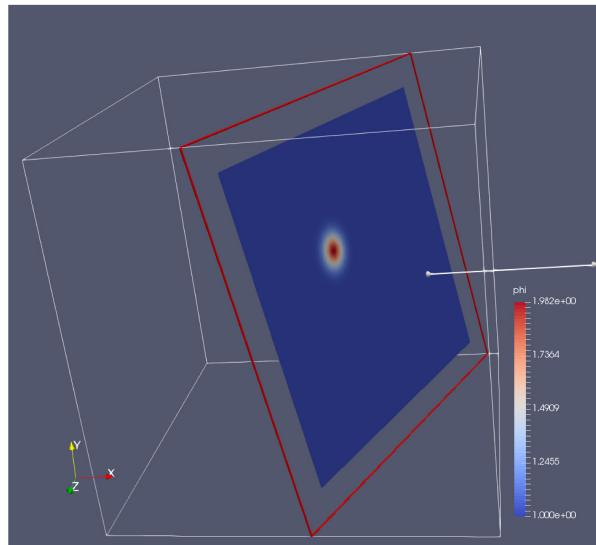

Fig. 17.1: : Plotfile image generated with ParaView
7. You can play with the Plane Parameters to define a plane of data to view, as shown in Fig. 17.1.